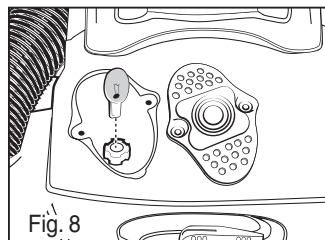

Fig. 8
- 3) Push in new bulb, replace lens cover and replace screw (Fig. 8).
- 2) Use finger to clear blockage from base (Fig. 8). Replace base plate and 3 screws.